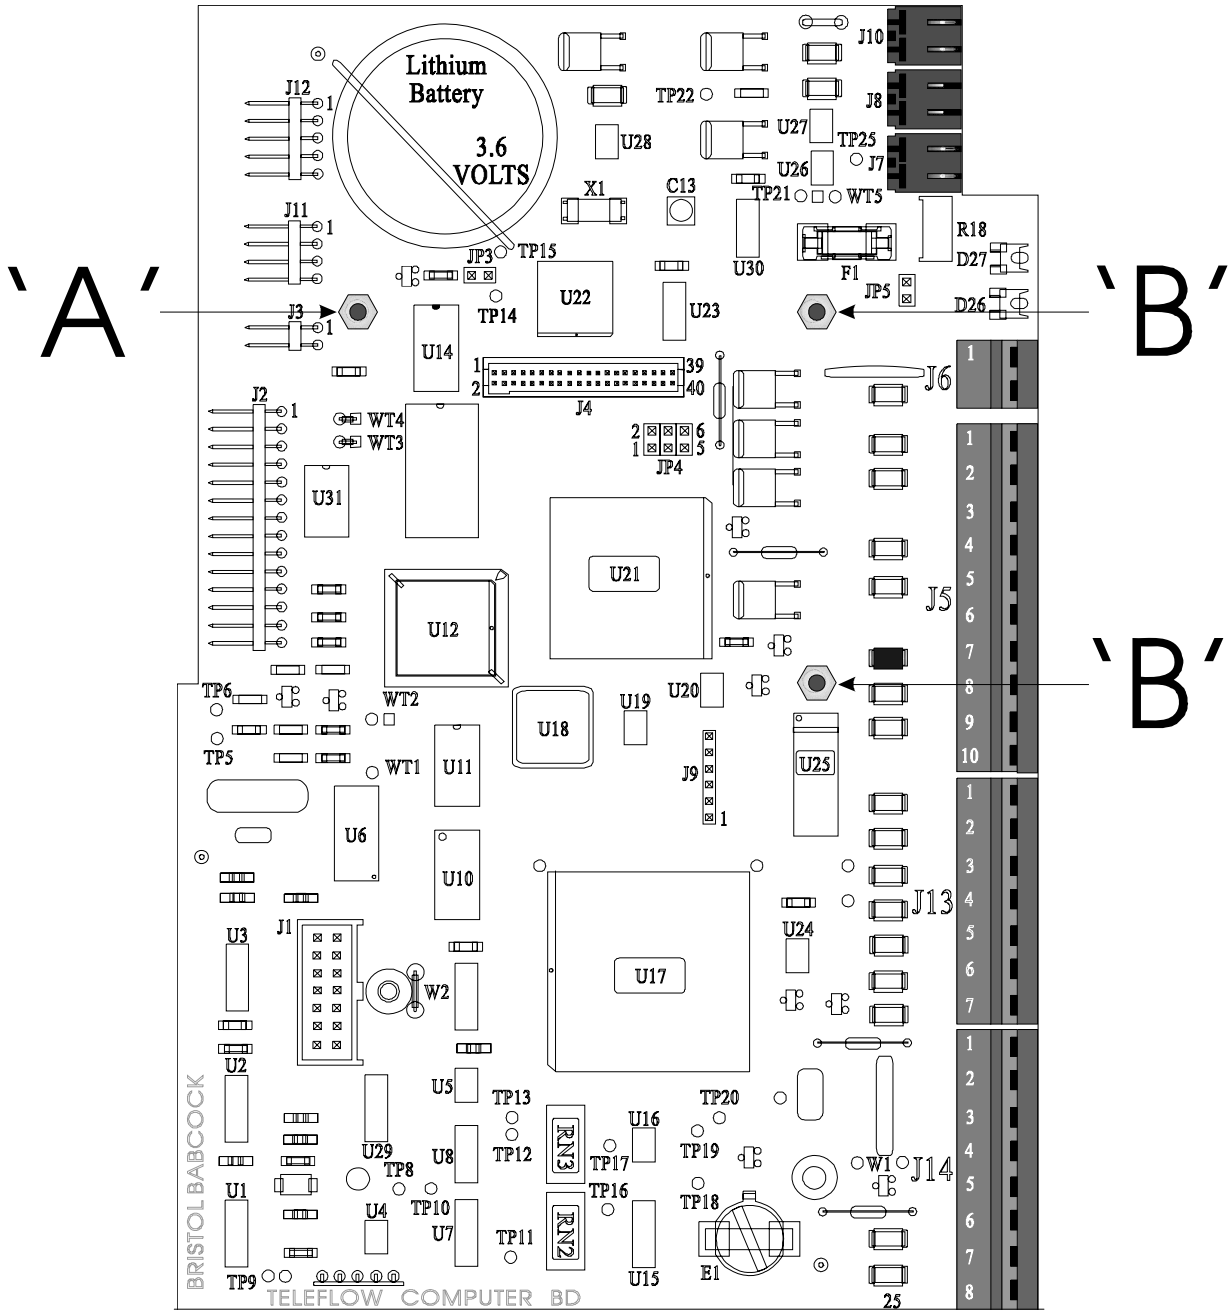

Figure 2 - TeleFlow CPU Board – Installation Drawing #1
7. Remove the screw (location 'A' in Figures 2 & 3) and the two (2) #4-40 x 5/8" Standoffs (location 'B' in Figures 2 & 3) which secure the CPU Board to the Main Mounting Bracket. Replace these items with the three new #4-40 x 15/32" Standoffs.
9. Secure the ETIB Board to the CPU Board by installing three (3) #4-40 x .188" Standoffs at Locations 'A' & 'B' (see Figures 2 & 3).
5. Remove the three screws (of five) that secure the CPU Board to the Sliding Mounting Bracket (locations 'A' & 'B' in Figures 2 & 3) and replace these items with the three new #4-40 x 15/32" Standoffs.
4. Remove the three screws (of five) that secure the CPU Board to the RTU Mounting Bracket (locations 'A' & 'B' in Figures 2 & 3) and replace these items with the three new #4-40 x 15/32" Standoffs.